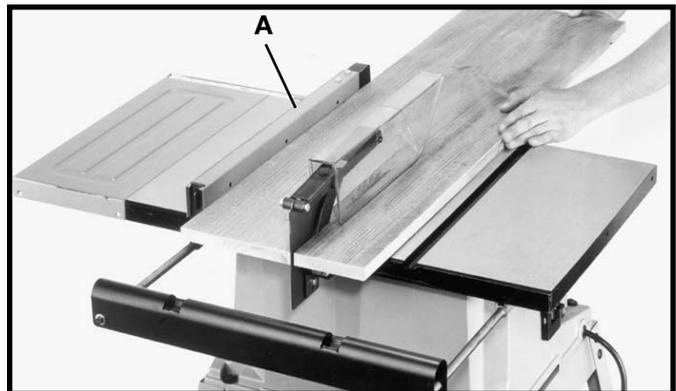
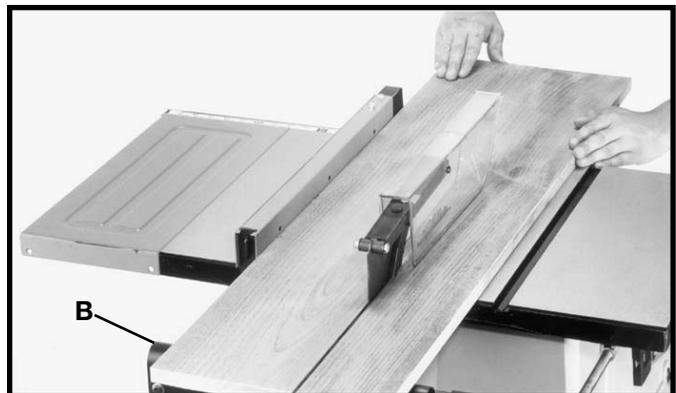

Fig. 55
Fig. 56
Ripping is the operation of making a length-wise cut through a board, as shown in Fig. 55, and the rip fence (A) is used to position and guide the work. One edge of the work rides against the rip fence while the flat side of the board rests on the table. Since the work is pushed along the fence, it must have a straight edge and make solid contact with the table. **THE SAW GUARD MUST ALWAYS BE USED.** The guard has anti-kickback fingers to prevent kickback and a splitter to prevent the saw kerf from closing and binding the blade.
Start the motor and advance the work, holding it down against the fence. Never stand in the line of the saw cut when ripping. Hold the work with both hands and push it along the fence and into the saw blade as shown in Fig. 55. After the workpiece is on the table the work can then be fed through the saw blade with one hand, as shown in Fig. 56. After the work is beyond the saw blade and anti-kickback fingers the feed can continue
to the end of the table, after which the work is lifted and brought back along the outside edge of the fence. The cut-off stock remains on the table or tilts up slightly and is caught by the rear end of the guard or slides off the table to the floor. If the cut-off stock remains on the table it is not touched with the hands until the saw blade is stopped, unless it is a large piece allowing safe removal. When ripping boards longer than three feet, it is recommended that outfeed support (B) Fig. 56, should be extended as far out as possible to keep workpiece from falling off the saw table.